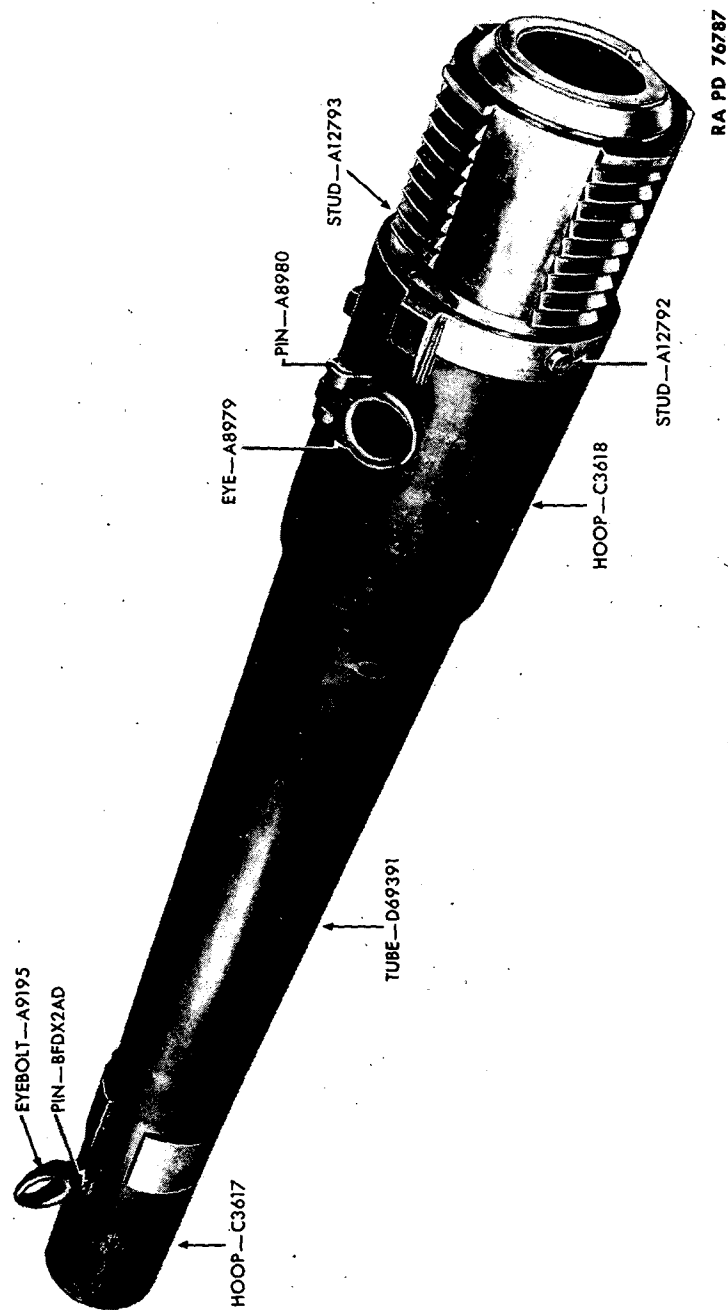

Figure 34—Tube Assembly
(1) The tube assembly is provided with a front eyebolt, lifting eye, and two studs. The lifting eye, together with the front eyebolt, is used as a means of lifting the tube. The lifting eye folds down against the tube when the latter is assembled on the carriage (fig. 34).